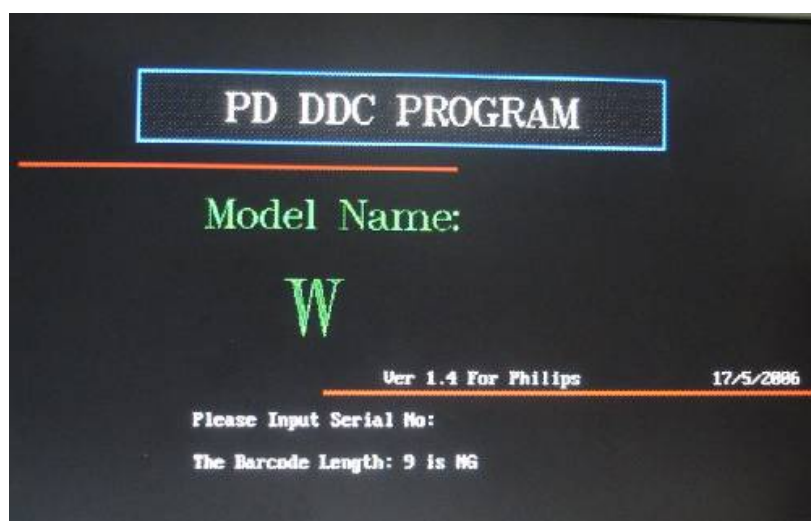

Fig 6
- And if you incorrectly input, there will appear "The Barcode length: 9 is NG" as shown Fig 6. You have to input again.